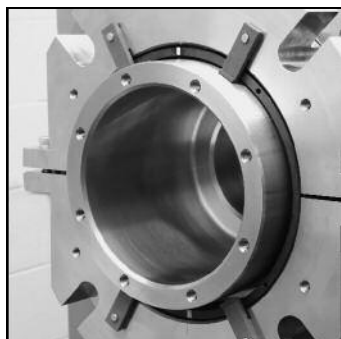

Figure 20
7. Bring the second half of the gland plate assembly around the shaft and towards the first half to engage the alignment pins. Figure 20.
8. Evenly tighten the cap screws until approximately a 3/16"/4.8mm gap exists at each split joint. Figure 20.